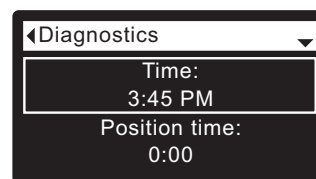

FIG. 83
8. Press the SELECT (O) button to display the Diagnostics screen (See Figure 83).